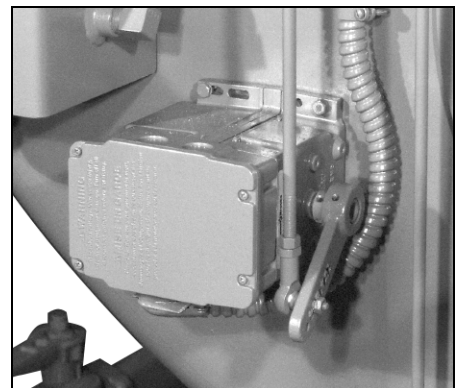

Figure 2-5 Modulating Motor
3. Modulating Motor (**Figure 2-5**): Operates the rotary air damper and fuel metering valves through a cam and linkage system to provide proper air/fuel ratios under all boiler load conditions.
4. Modulating Motor Transformer (**Figure 2-5**) (located in the mod motor): Reduces control circuit voltage (115 Vac) to required voltage (24Vac) for operation of the modulating motor.